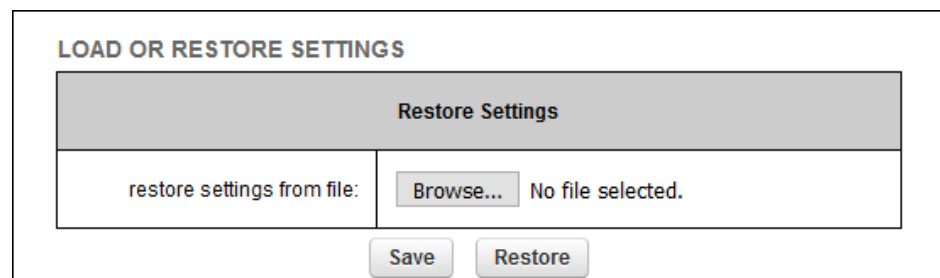

Figure 57. Configurator GUI (LOAD OR RESTORE SETTINGS dialog)
- The **LOAD OR RESTORE SETTINGS** dialog will be shown (Figure 57 \(page 108\)).